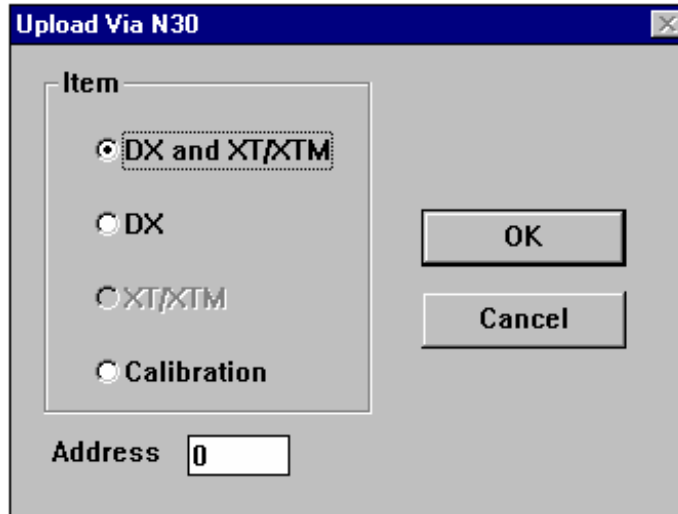

Figure 11-5: Upload Via N30 Dialog Box
1. On the Action menu, click Upload Via N30. The Upload Via N30 dialog box appears (Figure 11-5).